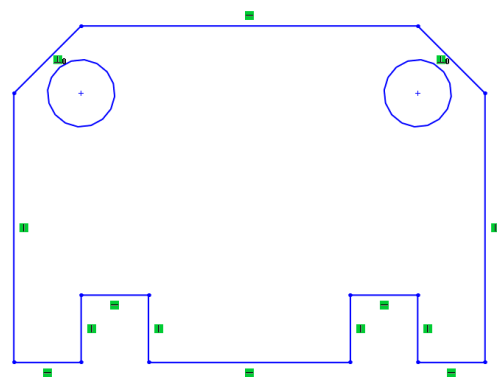

Figure 2-73 Sketch after drawing the two inner circles
7. Similarly, draw the circle on the left using the inferencing lines generating from the endpoints of the left inclined line. The sketch after drawing the two circles inside the outer loop is shown in Figure 2-73.